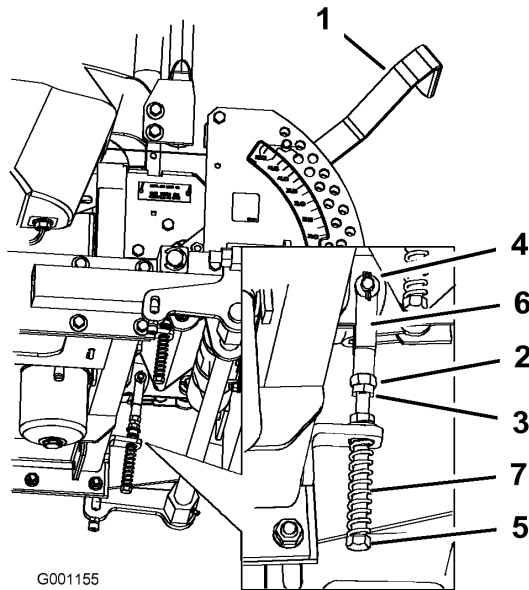

Figure 63
8. If adjustment is needed, loosen the nut and jam nut against the yoke (Figure 63).
9. Apply slight rearward pressure on the motion control lever, turn the head of the adjustment bolt in the appropriate direction until the control lever is centered in the neutral lock position (Figure 63).
10. Tighten the nut and jam nut (Figure 63).